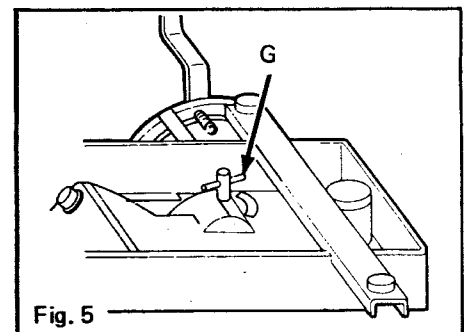

Fig. 5
B. HITCH LOWERING SPEED ADJUSTMENT (G) Figure 5 - Allows the operator to select hitch lowering speed. Turning lever counterclockwise increases lowering speed and turning lever clockwise decreases lowering speed. Tightening lever in clockwise direction locks hitch position.